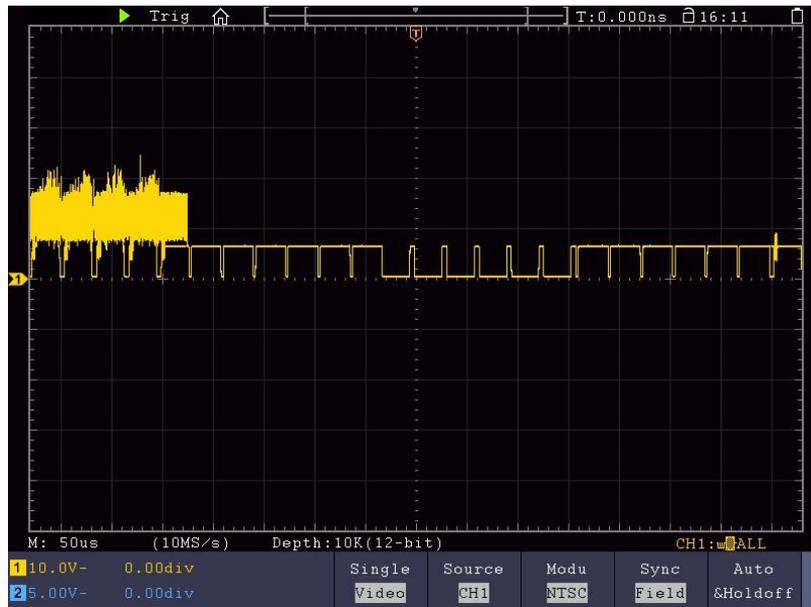

Figure 8-7 Waveform Captured from Video Field Trigger
- (3) In the left menu, select **Video** as the mode.
- (4) Select **Source** in the bottom menu. Select **CH1** in the right menu.
- (5) Select **Modu** in the bottom menu. Select **NTSC** in the right menu.
- (6) Select **Sync** in the bottom menu. Select **Field** in the right menu.
- (7) Turn the **Vertical Scale**, **Vertical Position** and **Horizontal Scale** knobs to obtain a proper waveform display (see *Figure 8-7*).